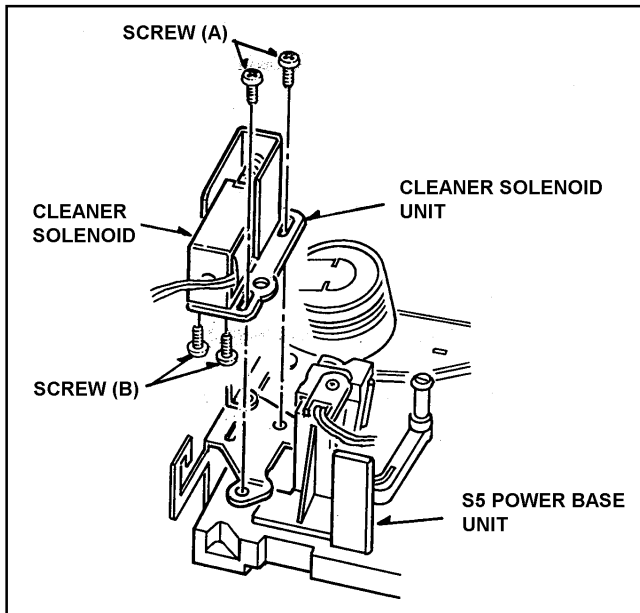

Figure 5-20-1
2. Unscrew the 2 screws (A) and remove the Cleaner Solenoid Unit as shown in Figure 5-20-1.
3. Unscrew the 2 screws (B) and remove the Cleaner Solenoid as shown in Figure 5-20-1.